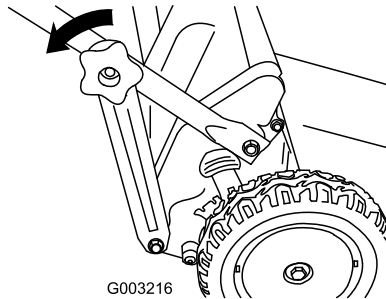

Figure 15
1. Remove the lower handle knobs that attach the lower handle ends to the handle brackets (Figure 15).